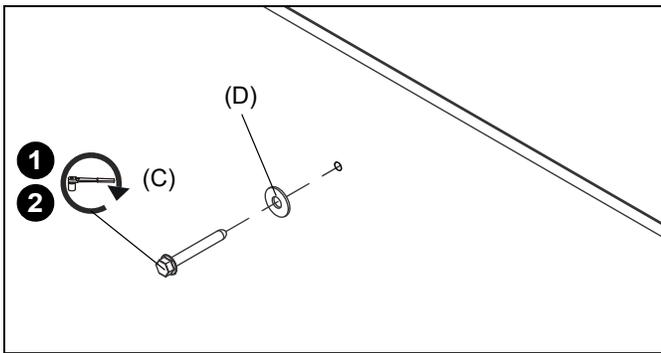

Figure 18
1. Use one 5/16" x 2-1/2" hex flange head lag bolt (C) and one 5/16" washer (D) through product and into pilot hole. (See Figure 18) and (See Figure 24)